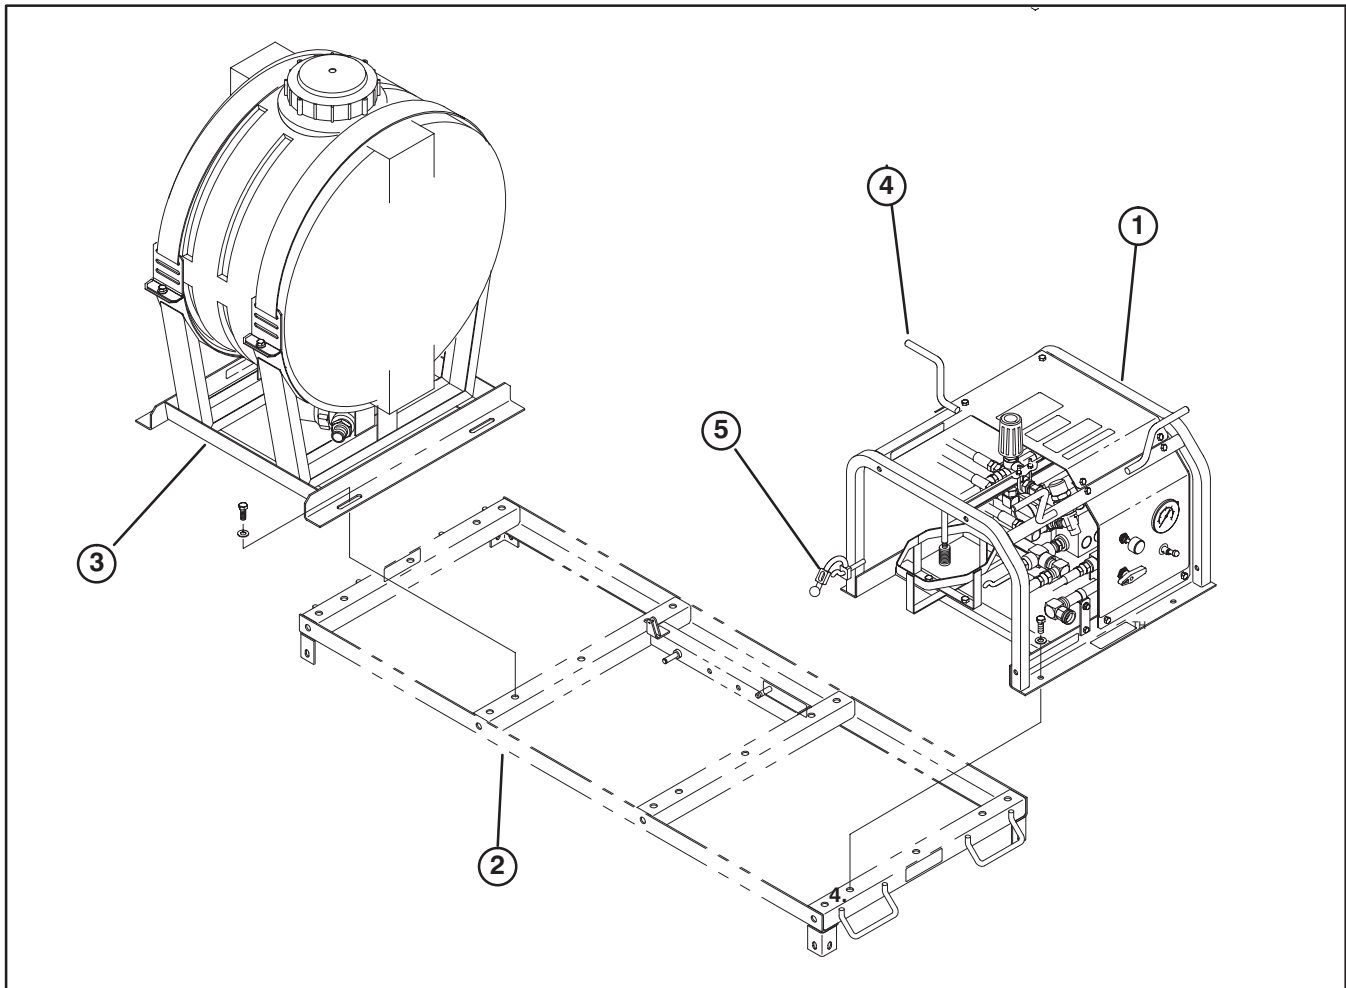

Figure 1
1. Position pressure washer pump assembly onto power platform aligning frame mounting holes with holes in platform (Fig. 1).
3. Install belt around pressure washer pulley and power platform jackshaft pulley (Fig. 1).
4. Secure pressure washer assembly frame to platform with (4) 3/8–16 x 1" lg. capscrews and flatwashers (Fig. 1).
5. Loosen (4) capscrews securing pump base to pressure washer frame. Tension belt by adjusting nut on tensioner. Belt should deflect 1/2" when 10 lb. of force is applied to belt midway between the jackshaft pulley and pump flywheel. Tighten capscrews securing pump to frame.
6. Position pressure washer tank assembly onto power platform aligning frame mounting holes with holes in platform (Fig. 1).
7. Secure pressure washer tank assembly frame to platform with (4) 3/8–16 x 1" lg. capscrews and flatwashers (Fig. 1).
11. When not using pressure washer, secure spray gun to pressure washer frame with (2) rubber hold downs and wind hose around the (3) storage hooks. (Fig. 1).